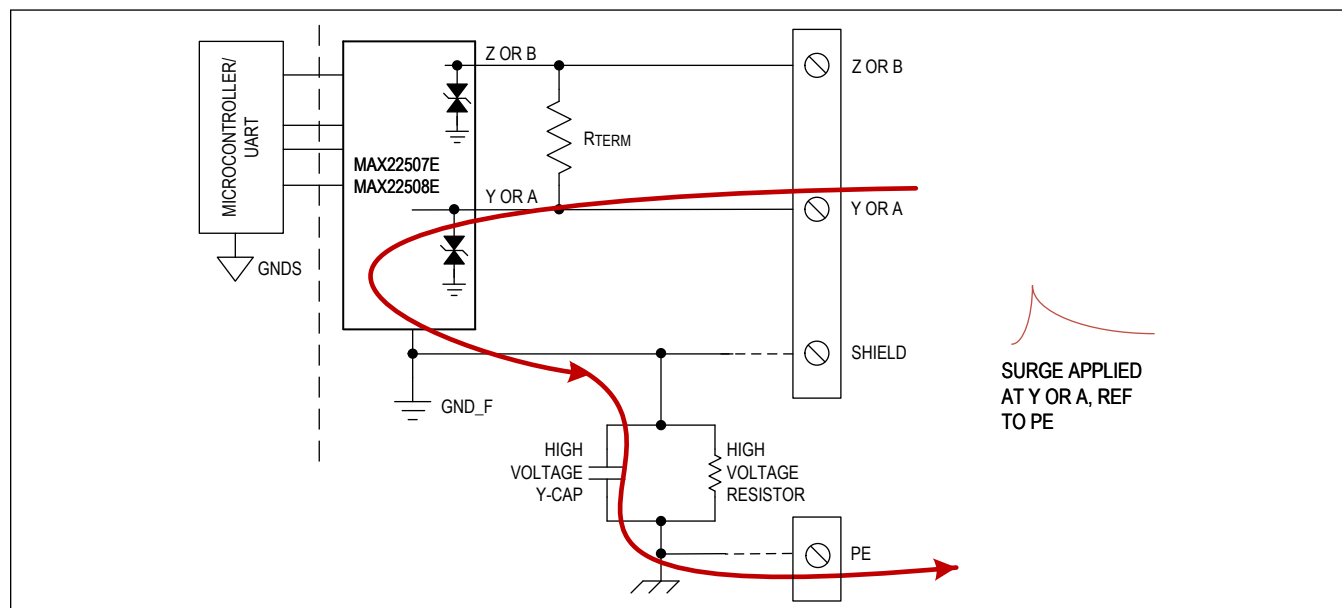

Figure 14. Surge Protection
Per the IEC 61000-4-5 standard, surge pulses must be referenced to protective earth (PE). Isolate PE from the field ground and connect a high voltage capacitor and a high voltage resistor between the field ground and PE. Figure 14 shows the current flow through the transceiver and PCB during a surge event. The MAX22507E/MAX22508E survived 8/20 μ s surge testing up to $\pm 2\text{kV}/42\Omega$ with a 1000pF high-voltage capacitor without the need for external TVS protection.